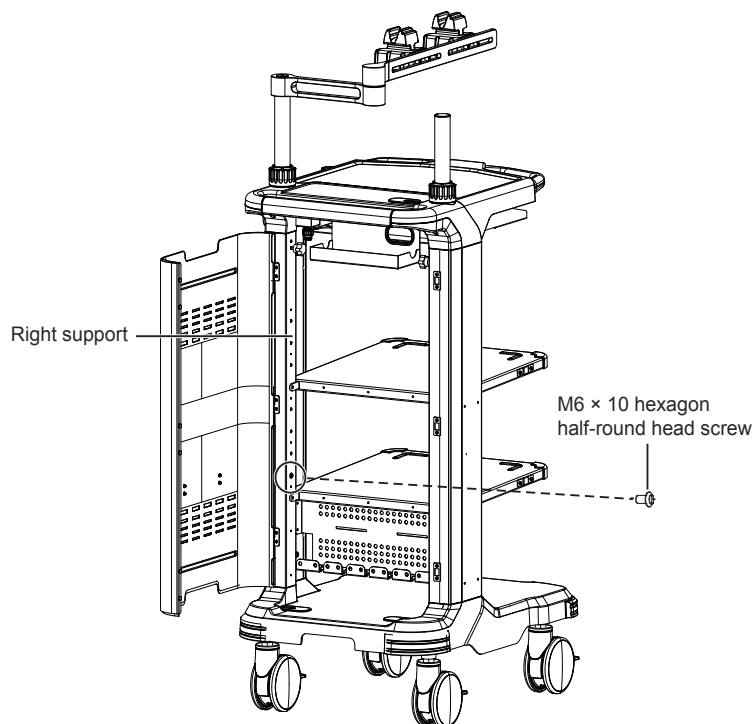

Figure 7 Tightening the Screw on the Right Support
- b. Tighten one M6 × 10 hexagon half-round head screw on the right support by the 4.0 hexagon spanner to avoid endoscope hanger falling that causes crushing, as shown in Figure 7.